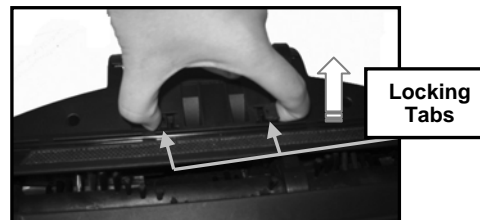
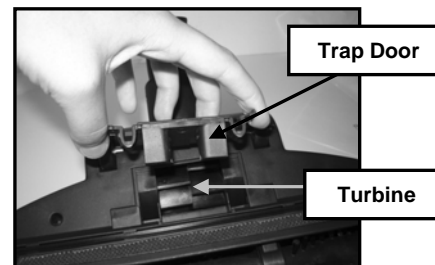

Fig. 13
Fig. 14
3. Using your thumb and index finger, simultaneously squeeze the locking tabs on either side of the trap door and lift off. (Fig. 13) Doing so will remove the trap door and allow you access to the turbine for cleaning and maintenance purposes. (Fig. 14)
6. Ensure that the turbine wheel moves freely by rotating it with your finger. If the turbine does not rotate, call **EURO-PRO** Customer Service for help at 1 (800) 798-7398.